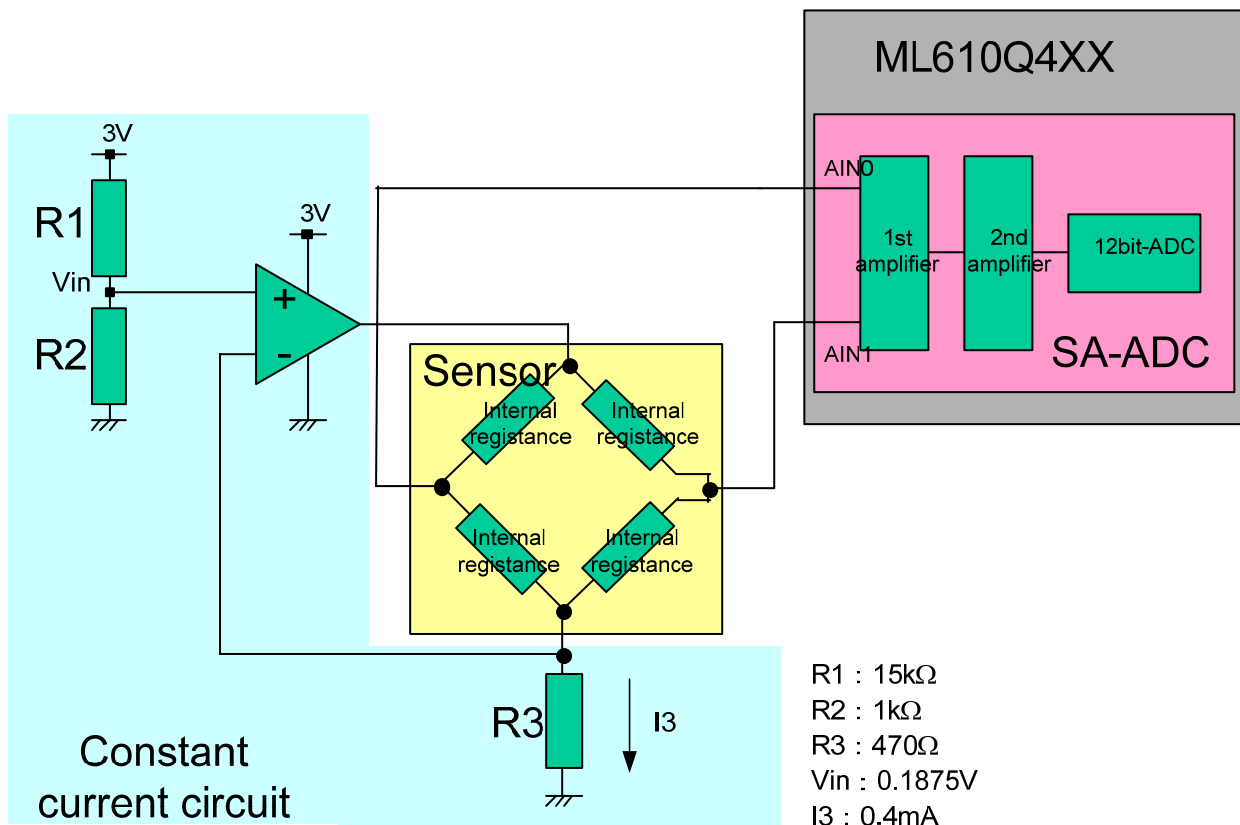

Figure 3-3 Circuit diagram for air pressure measurement
Figure 3-3 shows the circuit diagram for air pressure measurement. Because the manufacturer recommends using a constant current for the sensor driving current, the constant current circuit is connected to the sensor.
* The driving voltage of the sensor must be lower than the maximum output voltage of the operational amplifier which is used for the constant current circuit. In the case that the power supply for the operational amplifier is the same as the power supply for MCU (=3V), please be careful that the value of “ $(R3 + 7000\Omega) \times \text{driving current}$ ” in Figure 3-3 must be lower than 3V.